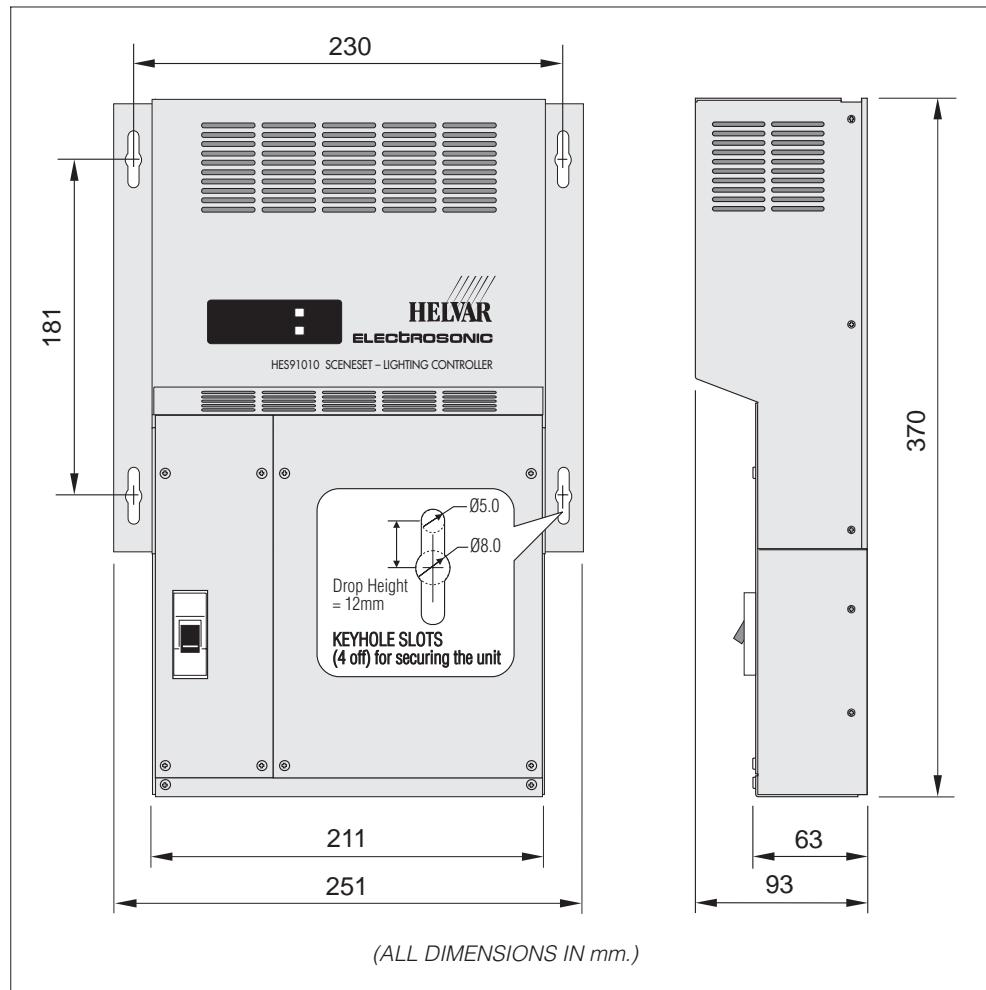

Fig.2-1: Overall dimensions & fixing centres.
1. Mark and drill four holes to correspond with the centres of the fixing holes (see Fig.2-1), and fit wall plugs as required. Note the drop-down clearance of 12mm.